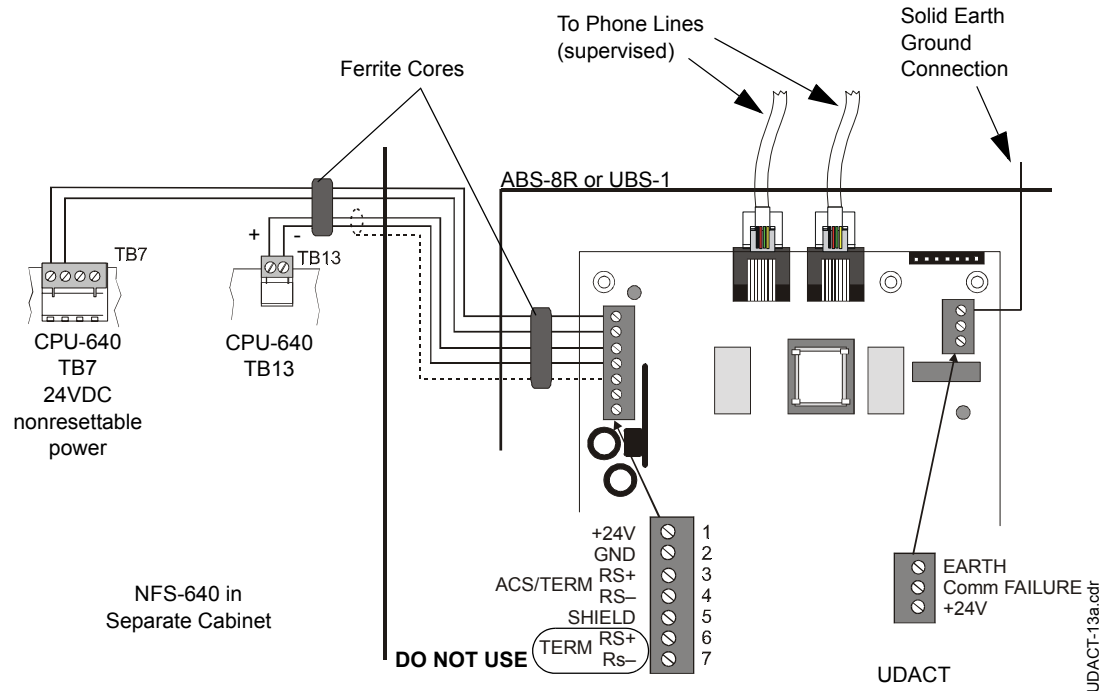
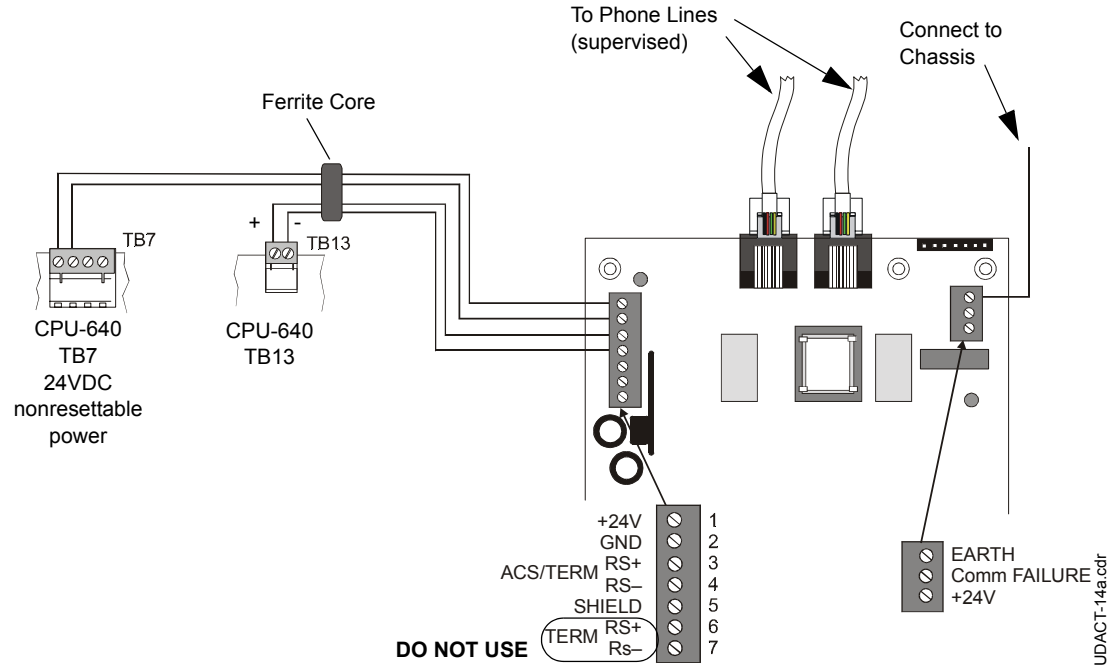

Figure 25 UDACT and NFS-640 in Separate Cabinets
Figure 26 UDACT and NFS-640 in the Same Cabinet
Refer to Figure 25 and Figure 26 on page 104.
2. Recommended wire is 12 AWG (3.25mm²) to 18 AWG (0.75mm²), twisted pair, shielded cable. Connect only one end of shield: a) shield may be connected to cabinet (earth ground) at fire alarm panel, or b) shield may be connected to TB1 Terminal 5 (Shield) at UDACT as shown in Figure 25.